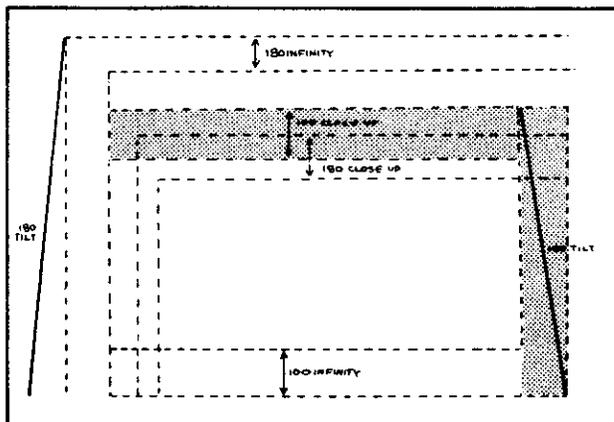

FIG. 3.11 FRAME TARGET - 100 CLOSE-UP & 100 TILT
3. Aim the camera at the frame target and move the focus bar to **CLOSE-UP**. Observe the target through the image sizer window and check that the inside points of the top and right side diamonds of the projected frame image are within the area bounded by the 100 close-up and 100 tilt target lines (Figure 3-11). If they are not, repair or replace the image sizer according to the instructions in Section V.